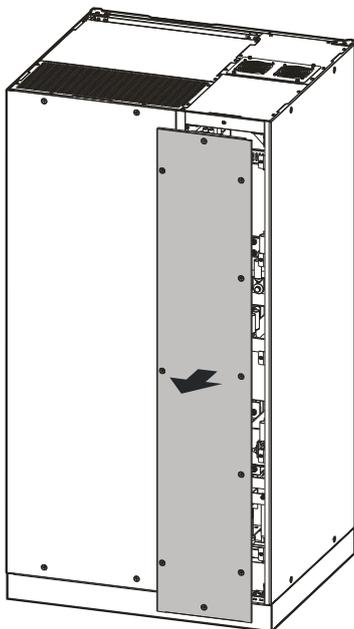

Figure3-17 Dismantle wiring cover plates of PS300KVA、PS400KVA
Step 1 Use the cross screwdriver to remove the screws from the wiring block, and dismantle wiring cover plates, as shown in Figure3-17.